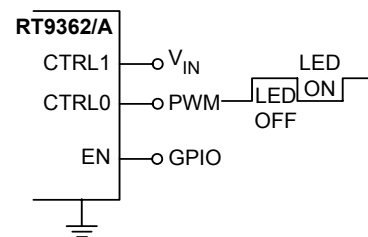
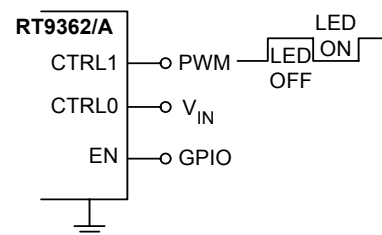
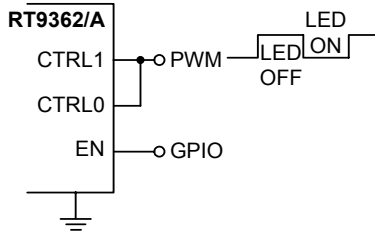

Figure 4. The PWM dimming application circuit for 4WLEDs
Figure 5. The PWM dimming application circuit for 3WLEDs
Figure 6. The PWM dimming application circuit for 2WLEDs
CTRLx and 4 LED's current states. For an example, as the CTRL1 is pulled logical high and CTRL0 receives a PWM signal, then, four LEDs will be dimmed synchronously. Here, the PWM signal setting the LED's current ON/OFF can achieve the average LED's current which in design. The application circuit is shown in Figure 4. Figure 5, and Figure 6 show 3WLEDs and 2WLEDs PWM dimming application circuit, respectively. During the time of PWM signal logical low, the current is a fixed value and setting by R_{SET} resistor. So the average LEDs current can be approximated as Equation (3).